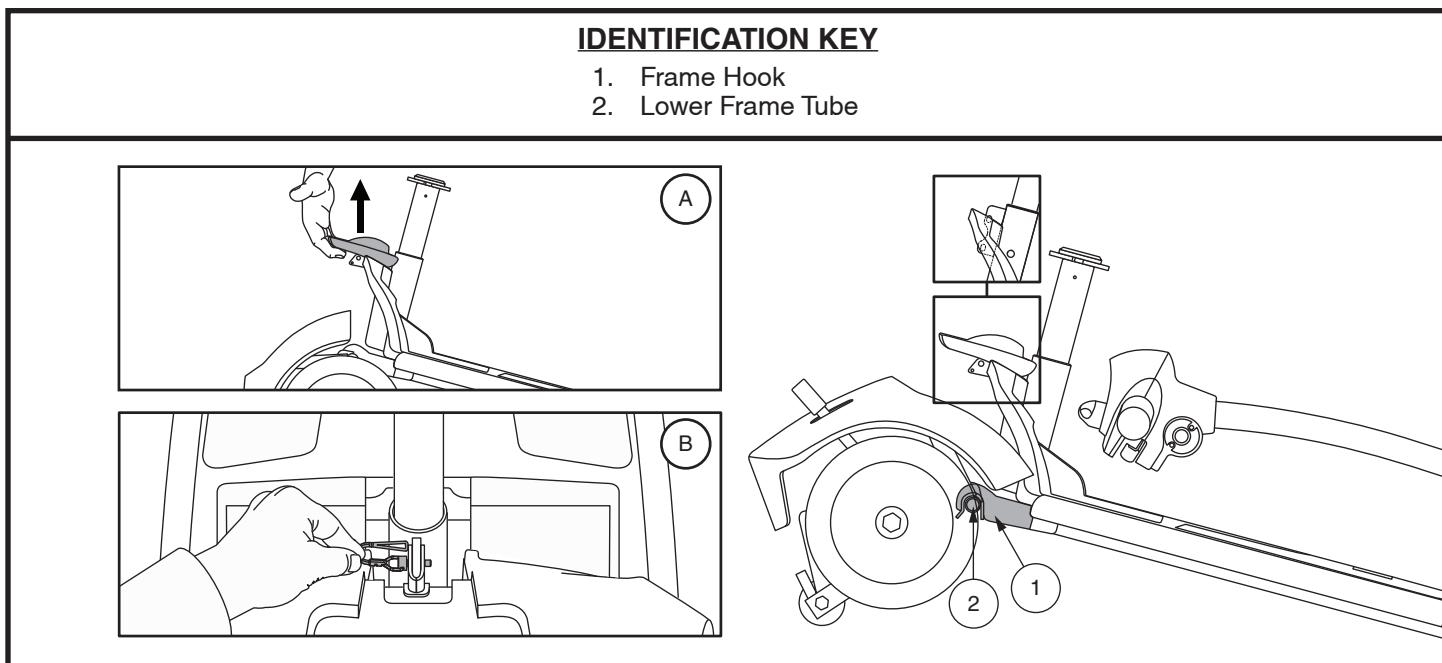

Figure 20. Frame Release Lever
- Slowly separate the two sections of the Travel Scooter. **See figure 20.**
**NOTE:** Before attempting assembly, tilt the rear half of the Travel Scooter slightly back on the anti-tip wheels as shown in figure 20.
- Use the frame release lever to lift the front section as you align the frame hooks of the front section with the lower frame tube of the rear section. **See figure 20.**
- Once the frame hooks are over the lower frame tube, lower the front section and pivot the rear section simultaneously. This will engage the frame lock-up automatically. **See figure 20.**